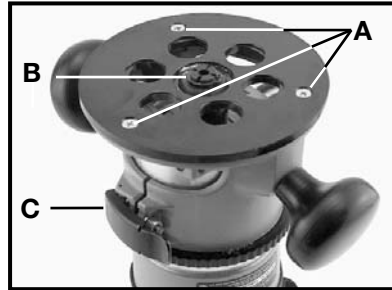

Fig. 4
2. Open the clamp (C) Fig. 4, and adjust the motor so that the collet nut engages the center hole in the sub-base. Allow the sub-base to center itself on the collet nut. Close the clamp.